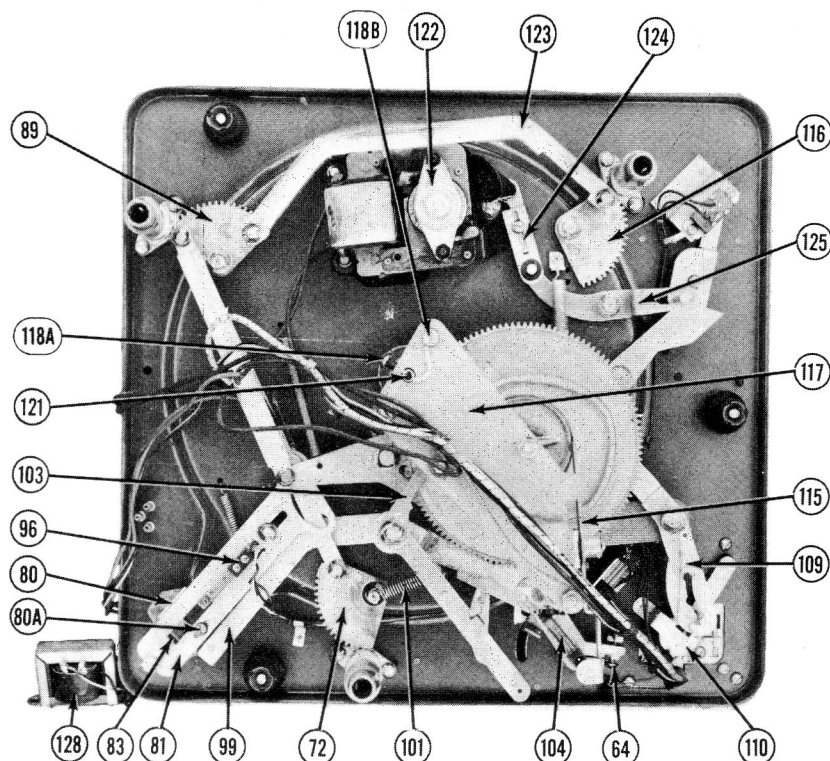

FIGURE 4
To remove the center post, loosen screw (118A), then loosen the center post spring mounting screw (118B) and pivot the spring (121) out of the hole in the center post (see Figure 4). The center post may now be removed by lifting it straight up.
In replacing the center post, be sure that the ledge of the center post is facing away from the push-off shelf (7). Insert the spring (121) in the center post and tighten the screw (118B). Then tighten screw (118A), Figure 4, then lock with nut.
1. Push-off slide plate (6) out of adjustment. The slide plate (6) should move far enough forward to push the record off the edge of the record support shelf (7).
(a) Loosen the set screw (80A), Figure 4, and slide the push-off cam adjuster (80) away from the center post. Tighten the screw and check the adjustment.